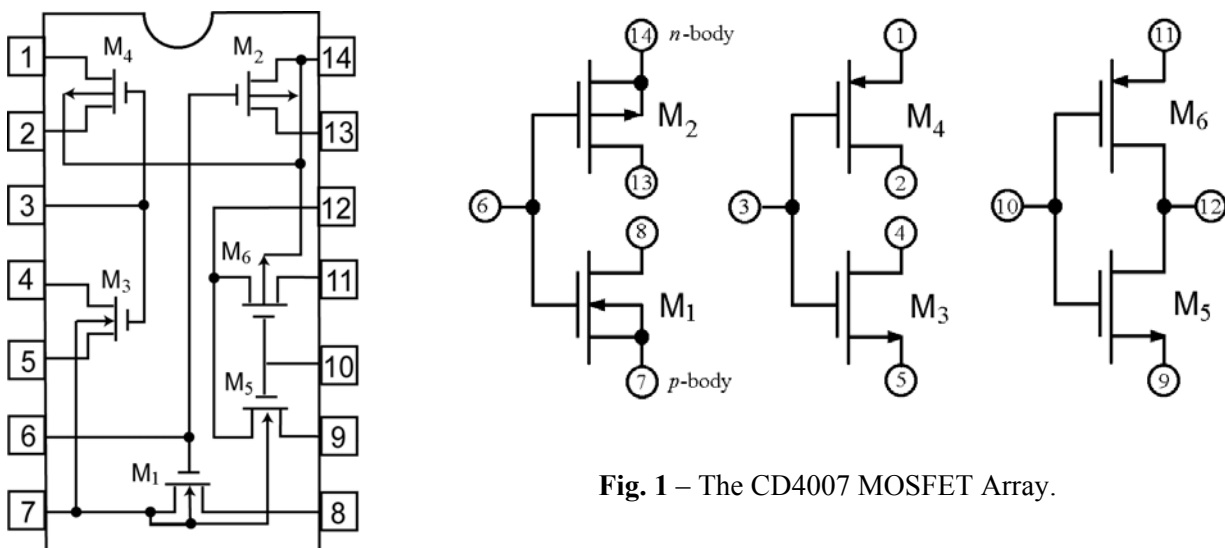
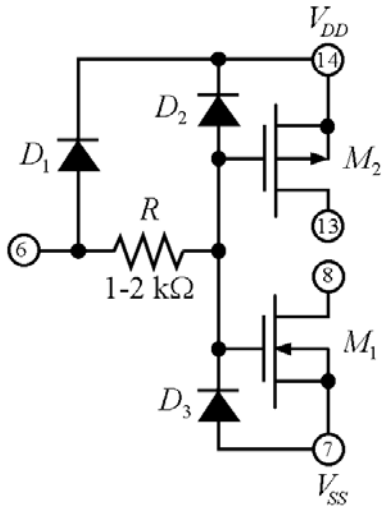

Fig. 1 – The CD4007 MOSFET Array.
Fig. 2 – Internal diode protective network.
The purpose of this laboratory is to investigate a variety of CMOS applications using the transistors of the CD4007UB MOSFET Array that you have characterized in Lab #1. For convenience, the pinout diagram of this IC is repeated in Fig. 1. Beware that all wiring tips and experimental precautions stressed in Lab #1 still hold! If you damage the particular CD4007 sample you are working with, you'll need to characterize a new sample in order to ensure consistency between measurements and simulations. MOSFETs belonging to the *same* IC sample are indeed matched to a good degree, but no matching can be expected between *different* IC samples.
To prevent possible damage to the gate oxide by the inadvertent application of excessively large input voltages from the outside, *all inputs are protected* by an internal network of diode clamps. This network, deliberately omitted from the diagrams of Fig. 1 for simplicity, is shown in Fig. 2 for the input (Pin 6) of transistors  $M_1$  and  $M_2$  (a similar network exists for Pins 3 and 10). It is apparent that diodes  $D_2$  and  $D_3$  restrict the actual voltage  $v_G$  appearing right at the gates of  $M_1$  and  $M_2$  within the range
Figure 6 shows an experimental implementation using the MOSFETs of the CD4007 Array. The purpose of  $R_1$  ( $R_1 \gg R$ ) is to prevent the diode clamp  $D_1$  associated with Pin 6 (refer to Fig. 2) from significantly loading the voltage waveform  $v_3$  at the node common to  $R$  and  $C$ .
**PS1:** Using the *n*MOSFET and *p*MOSFET values of  $V_{t0}$ ,  $k$ ,  $\lambda$ , and the inverter's equivalent output capacitance  $C_{eq}$  determined in Lab #1, perform a PSpice simulation of the multivibrator of Fig. 6. Display a few periods of all significant waveforms in your circuit ( $v_1$ ,  $v_2$ ,  $v_3$ , and  $v_O$ ), and use the cursor facility of PSpice to determine the period  $T$  of oscillation. Perform your simulation (a) first with the circuit as shown, and (b) then with a diode  $D_1$  between Pin 6 (anode) and Pin 14 (cathode) to simulate the clamping action of  $D_1$  discussed in connection with Fig. 2 (for this purpose, you can use the diode D1N4148 available in PSpices' library.) Compare the waveforms at Pin 6, and discuss how significant the impact of  $D_1$  upon  $T$  is.
**PS5:** Using the CMOS parameters of Step PS1, perform a PSpice simulation of the one-shot of Fig. 8. At the input of the inverter use a diode  $D_1$  between Pin 10 (anode) and Pin 11 (cathode) to simulate the clamping action of  $D_1$  discussed in connection with Fig. 2 (for this purpose, you can use the diode D1N4148 available in PSpice’s library). As input trigger use a train of pulses alternating between 0V and 5 V, with width  $T_W \cong 1 \mu\text{s}$ , and spaced apart by a couple of milliseconds. Display all significant waveforms in your circuit ( $v_I$ ,  $v_1$ ,  $v_2$ , and  $v_O$ ) for several input trigger pulses. Hence, use the cursor facility of PSpice to determine the timeout interval  $T$ .